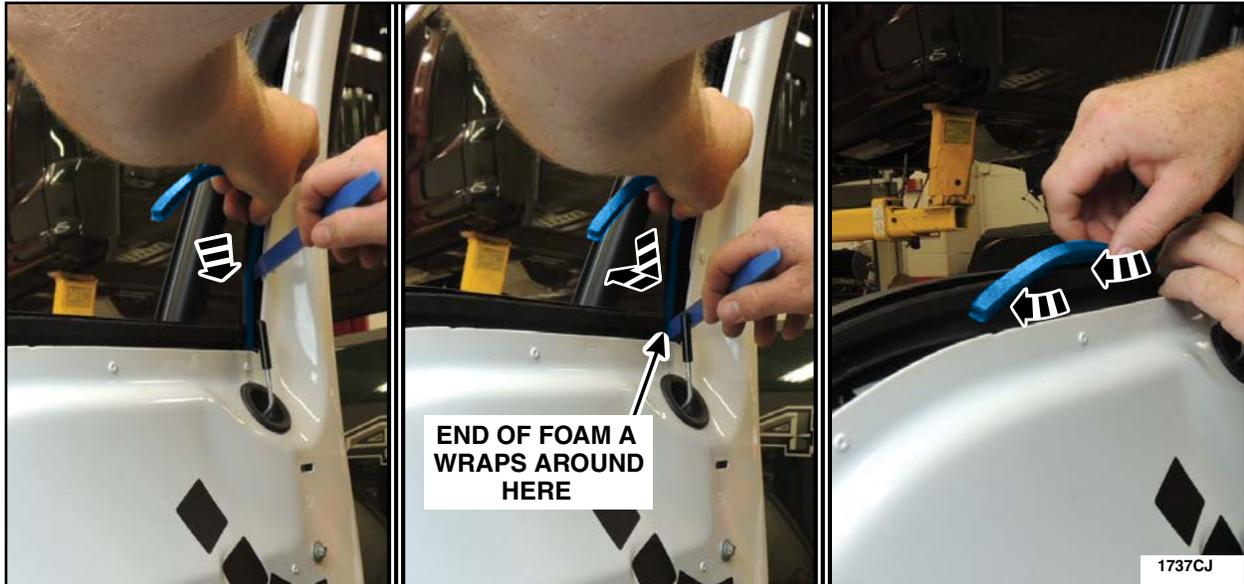

FIGURE 23
- Using a small trim removal tool, install Foam A to the outer belt moulding on top of the bead of silicone that was previously applied. Both of the outer belt moulding clips need to be covered by the Foam A. See Figures 23 and 24.